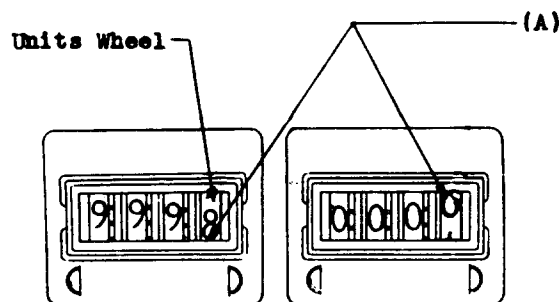

Fig. 1 — Alignment of Number Wheels
(a) Figs. 1(A) and 2(A) — With the register electrically operated there shall be a slight clearance between the operating pawl and the overthrow stop. This will permit a slight backward and forward movement of the units wheel. This backward and forward movement shall not be sufficient to permit the top of any figure to lie above the top edge of the cap window or the bottom of any figure to lie below the bottom edge of the cap window. This requirement shall be met on every tooth of the ratchet wheel. Gauge by eye.